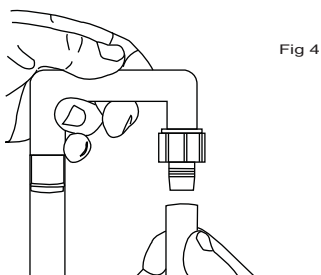

Fig 4
12. Pull the hose from the inlet side of the filter up next to the inlet U pipe and line up. Fig 4